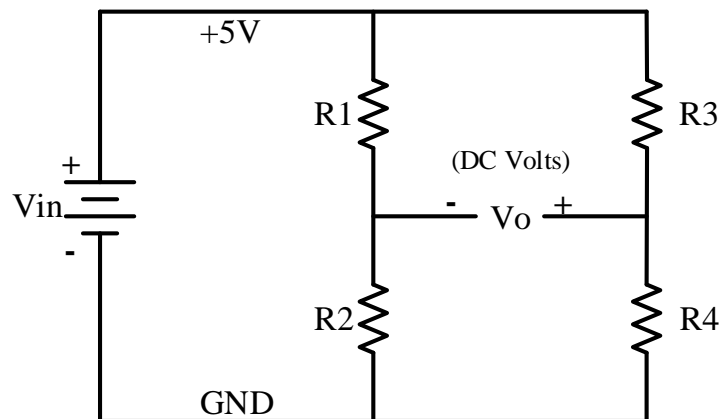

Figure 1. Wheatstone Bridge Circuit
Figure 1 shows a Wheatstone bridge. The input voltage, V_{in} , and the output voltage, V_o , will be measured with a digital multi-meter (DMM). If all resistances are exactly equal, the measured output voltage would be zero indicating that the bridge is balanced or **nulled**. Any deviation (deflection) from this nulled condition is an indication that one or more of the resistances has changed.
2. Construct/verify the Wheatstone bridge circuit shown in Figure 1 with $V_{in} = 5V$, $R_1 = 110\Omega$, $R_2 = 110\Omega$, $R_3 = 110\Omega$, and a decade box adjustable resistance for R_4 .